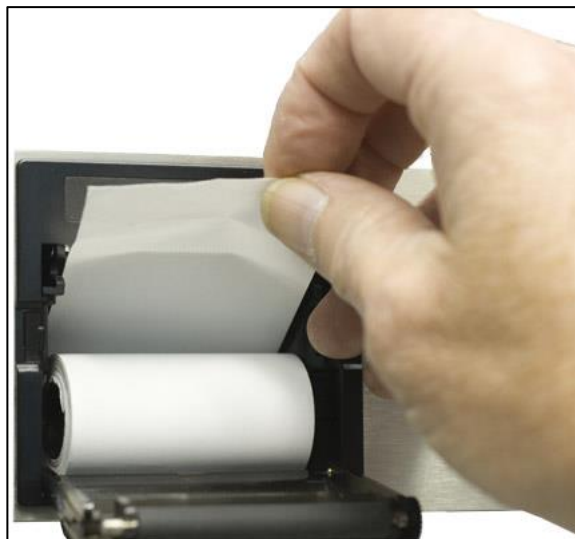

Figure 3-14 Placing Paper into the Printer.
3. Unroll about two inches of paper and place the new roll into the printer as shown in Figure 3-14. To maintain warranty and CE certification, only use paper (P/N: 060-096000 plain or 060-096004 cleanroom) as supplied by Lighthouse Worldwide Solutions.